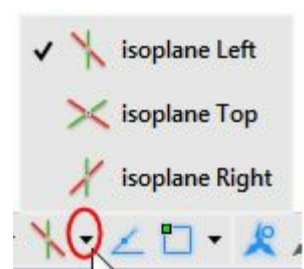

Figure-59. Isometric planes
- To select another isometric plane, click on the down arrow next to the **Isometric Drafting** button. A list of isometric planes will be displayed; refer to Figure-59.